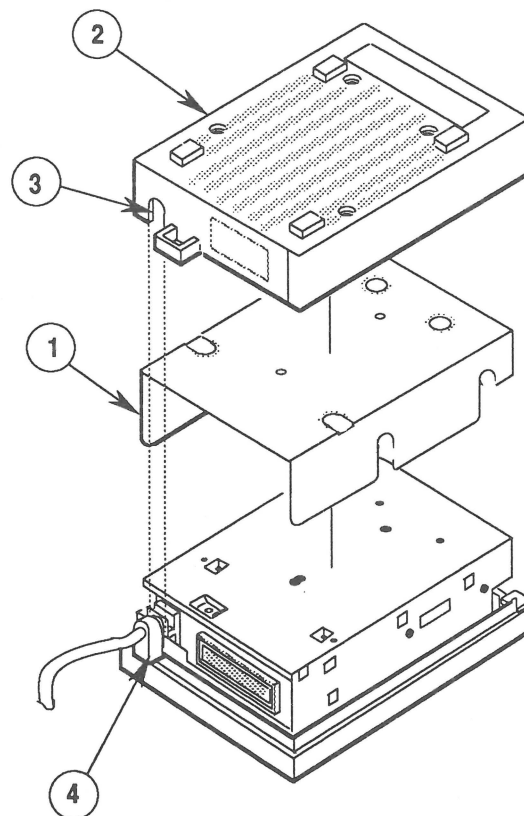

FIGURE 7
6. Replace the floppy metal shield (Figure 7, #1) on the drive assembly.
7. Replace the case bottom (Figure 7, #2) over the drive assembly. The external drive cable opening (Figure 7, #3) in the case bottom should fit over the innermost groove in the external drive cable anchor (Figure 7, #4). Press the case top firmly into place.